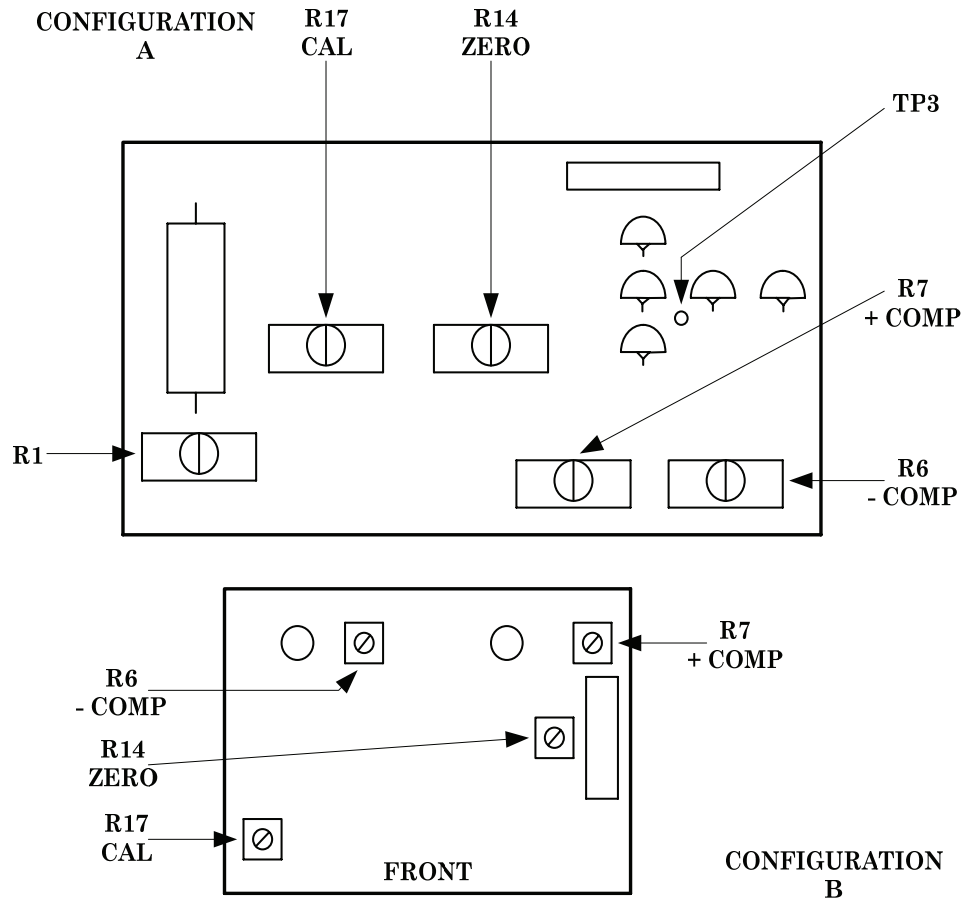

Figure 2. Model 8000A/MAS - top view.
(2) Set calibrator for 1.9 kΩ. Adjust R1 (fig. 2) until TI indicates actual resistance of calibrator (R).
(1) Disconnect TI from equipment setup.
(2) Set **READ mASEC-ERASE** switch to **ERASE**.
(3) Set **mASEC mA** switch to **mASEC**. If TI does not indicate 0000,  $\pm 1$  digit, adjust R14 **ZERO** (fig. 2) until TI indicates 0000.
(4) Using cables of equal length connect calibrator output to TI **MA** and **COMMON** inputs and to frequency counter **A** input.
(5) Set **mASEC mA** switch to **mA**.
(6) Set calibrator for an initial 22 mA output and, if necessary, rotate calibrator knob below **EDIT FIELD** pushbutton to adjust calibrator for a TI indication of 22 mA.
(7) Set calibrator to **STANDBY**.
(8) Connect digital multimeter to TI TP3 (fig. 2) and **COMMON** terminal.
(9) Set **mASEC mA** switch to **mASEC**.
(10) Momentarily set calibrator to **OPERATE**. If digital multimeter does not indicate less than 1 V dc with +22 mA applied to TI, adjust R7 +COMP (fig. 2) until digital multimeter indicates less than 1 V dc.
(11) Set **mA SEC mA** switch to **mA**.
(12) Set calibrator for an initial 17 mA output and, if necessary, rotate calibrator knob below **EDIT FIELD** pushbutton to adjust calibrator for a TI indication of 17 mA.
(13) Set calibrator to **STANDBY** and set **mA SEC mA** switch to **mA SEC**.
(14) Momentarily set calibrator to **OPERATE**. If digital multimeter does not indicate between -13 and -17 V dc, adjust R7 +COMP (fig. 2) until digital multimeter does indicate between -13 and -17 V dc.
(15) Set calibrator to **STANDBY**, reverse leads on calibrator and repeat (5) through (14) above. If digital multimeter does not indicate less than 1 V dc when -22 mA is applied and between -13 and -17 V dc when -17 mA is applied to TI, adjust R6 -COMP (fig. 2) until both indications are obtained.
(16) Repeat **a** above. If TI is out of tolerance at **a** (15) above, adjust R17 CAL (fig. 2) while toggling calibrator between **OPERATE** and **STANDBY** until TI indicates the same reading in mA as frequency counter indicates in time,  $\pm 2$  digits (R).